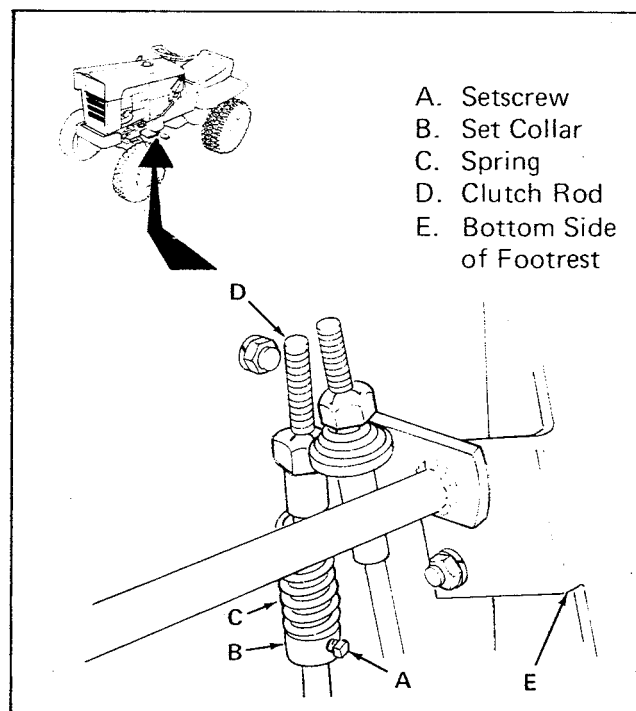

Figure 17. Clutch Rod Tension Adjustment
2. Loosen setscrew (item A, figure 17.)